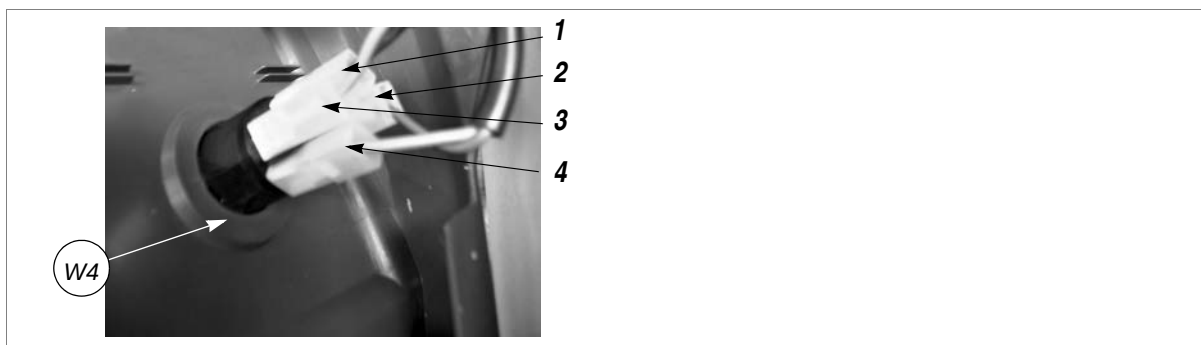

Fig. 43
- 10) Remove the connectors (1, 2, 3, 4), paying attention to their positions (fig. 43, page 30).